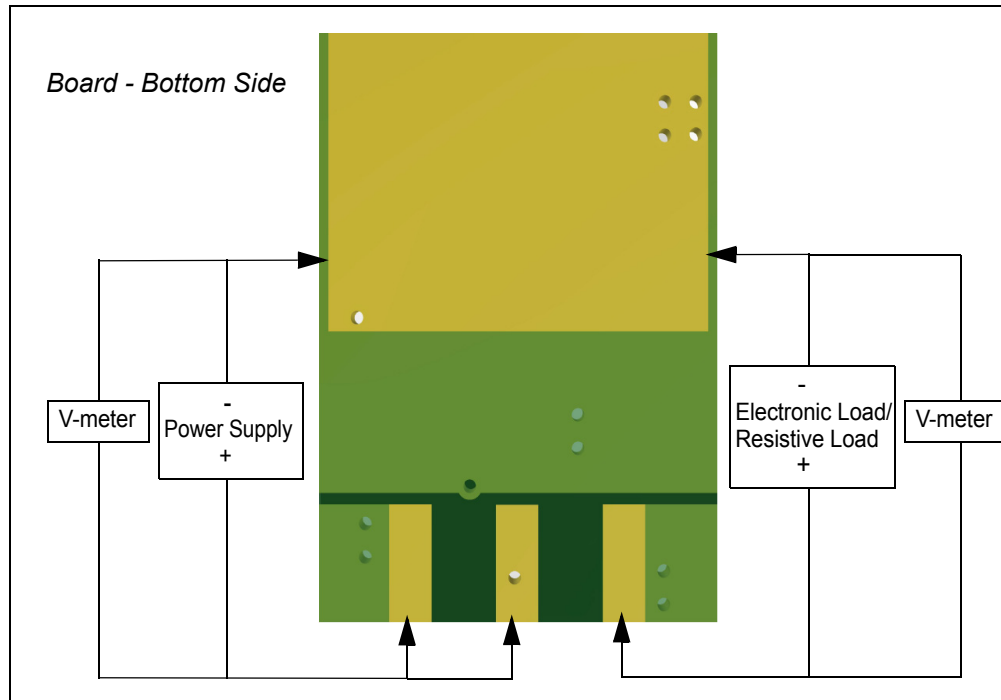

FIGURE 2-5: MCP1663 Mini-Module SEPIC Converter Evaluation Board Setup.
1. Connect the power supply as shown in Figure 2-5.